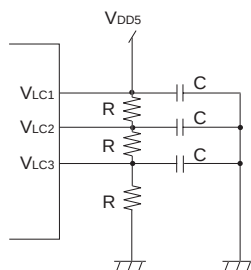

Figure:22.3.3 Supplies of V_{LC1} to V_{LC3}
2. Power supply V_{LC1} to V_{LC3} for LCD are given like following Figure:22.3.3.
The potential between V_{DD5} and V_{SS} are divided by the dividing resistors. Usually, the resistor used are ranging from 10th k Ω to 100th k Ω . "C" in Figure:22.3.3 is a bypass capacitor (approximately 0.1 μ F) which decreases the power supply impedance.
Supply the voltage shown in Figure:22.3.3.